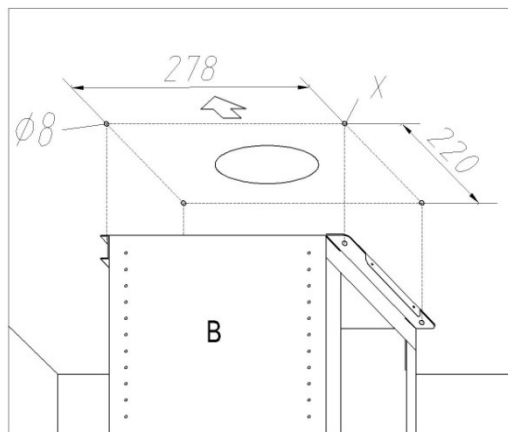

Fig.2
- Please attention that the arrow is positioned on the same side as the appliance controls. Make 4, Ø8 holes in the ceiling and drive in 3 screws without completely tightening them(Fig2). Pay attention not to insert the screw into the hole marked with an **X** on the hole template (the screws and expansion plugs must be suitable for the type of wall).